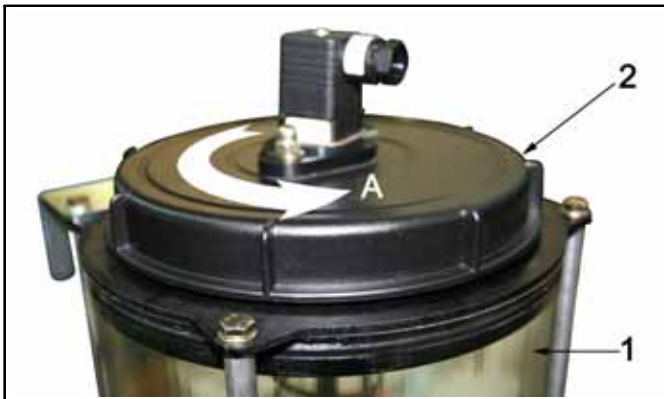

Fig. 1 Open reservoir cover
Observe all work steps (Fig. 1 to 7) to provide the readiness for operation of pump 603 S.
- ➔ Remove the reservoir cover 2 (Fig. 1) counterclockwise (direction A) from the reservoir 1.